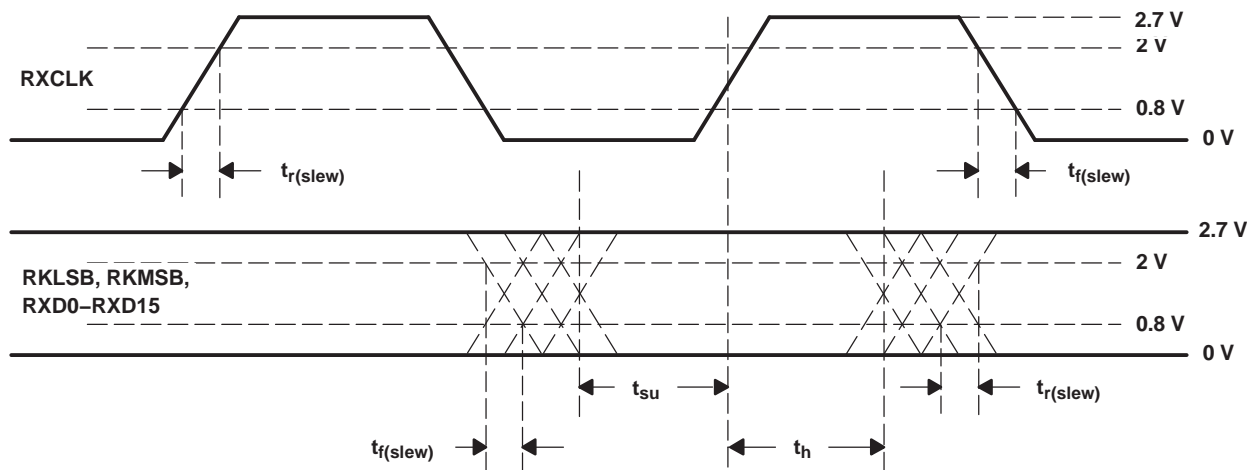

Figure 8. TTL Data Output Valid Levels for AC Measurements
50% voltage swing, TXCLK = 125 MHz, See Figure 8 (1)	2.5